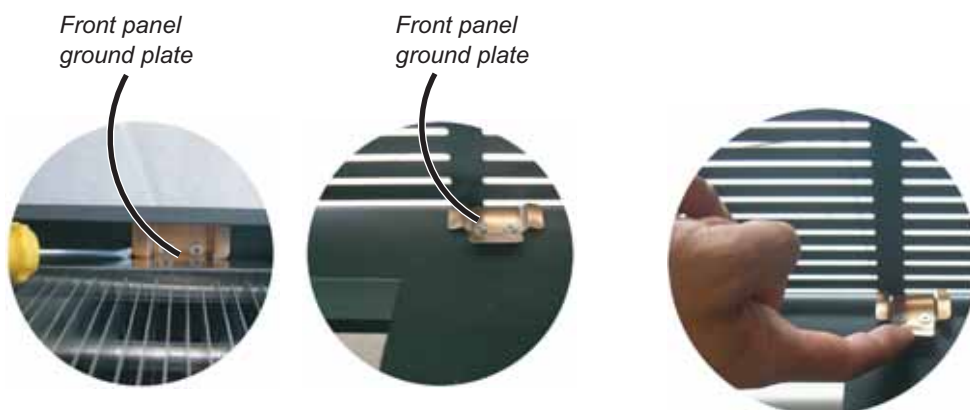

Fig. 5.10-1 Adjust the ground plate so that it can contact the cell and pre filter correctly.
- Visually check if the front panel ground plate. If it is pressed down, you will need to adjust it by finger (Fig. 5.10-1).